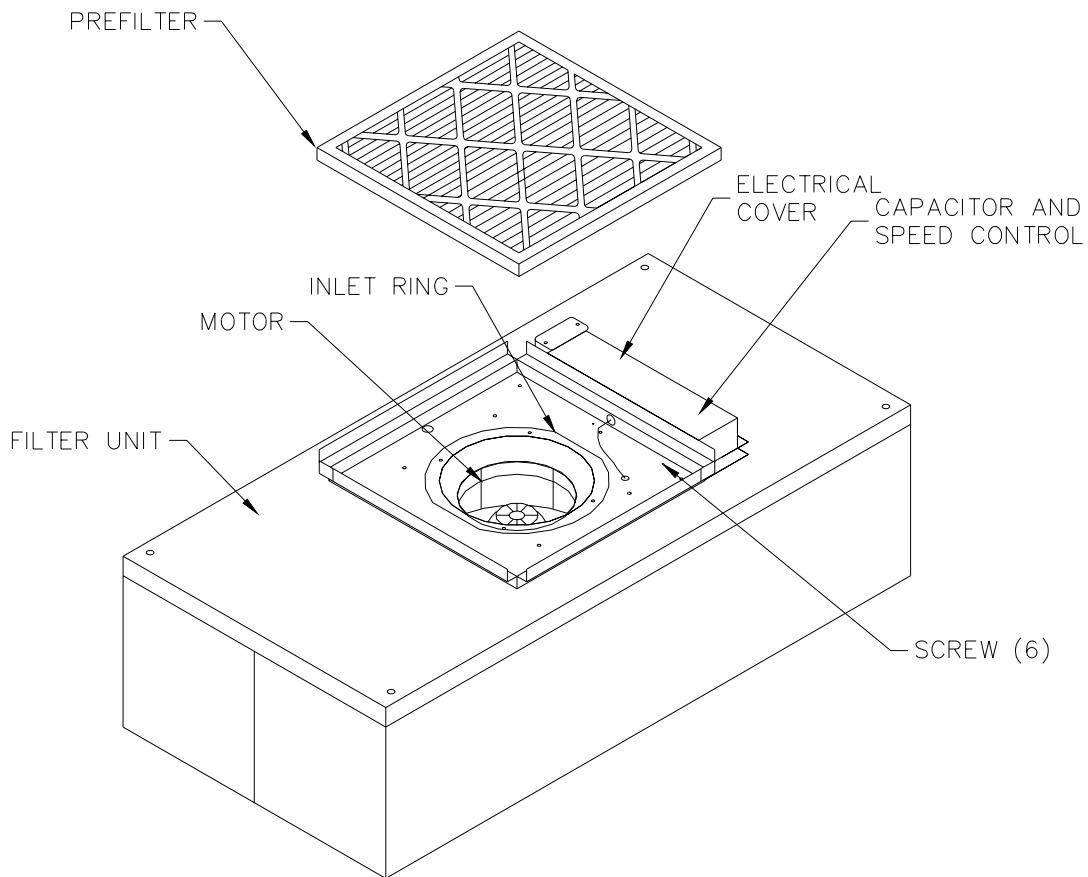

Figure 5
Step 2. Remove the prefilter off the prefilter frame.(see Figure 5)